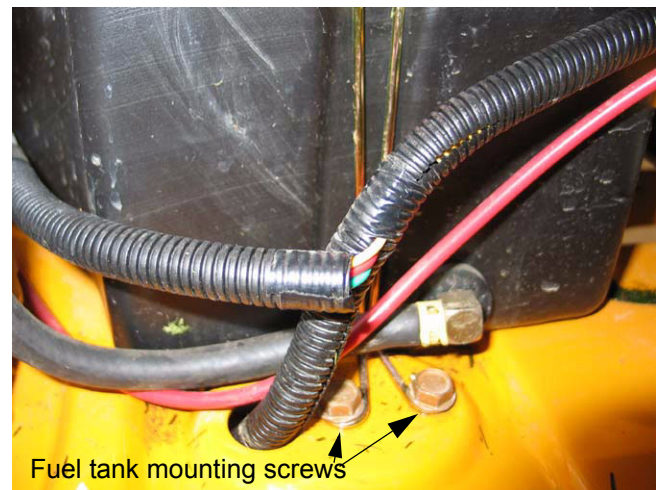

Figure 12.3
12.3. Remove the two screws securing the fuel tank mounting wire to the frame using a 1/2” socket. See Figure 12.3.